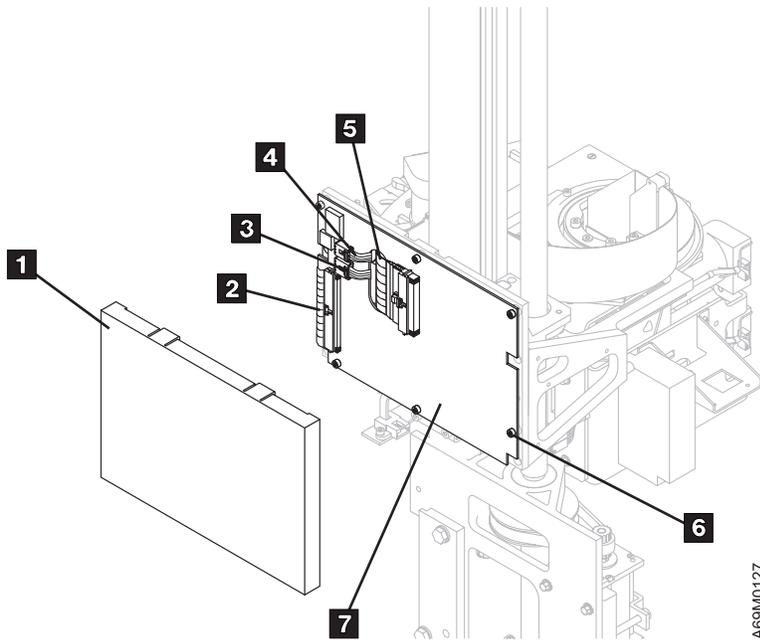

Figure 94. ACC Card
4. Remove the ACC card cover **1** by unsnapping it from the card (see Figure 94 on page 559).